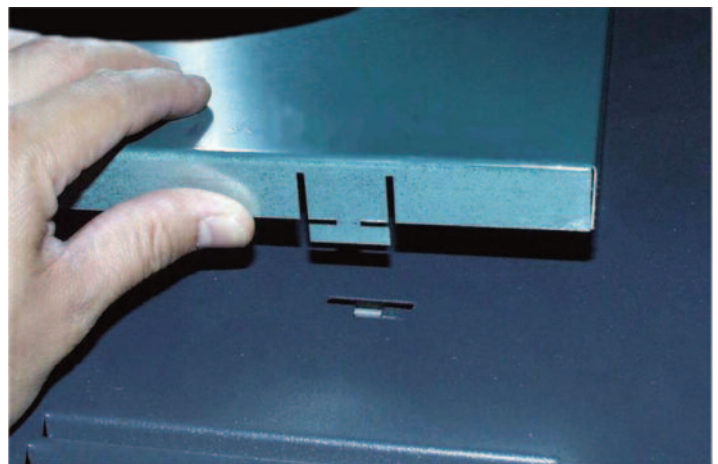

Fig. 7
8. Insert the rear two tabs into the slots on the heater jacket top. See **Fig. 7**.